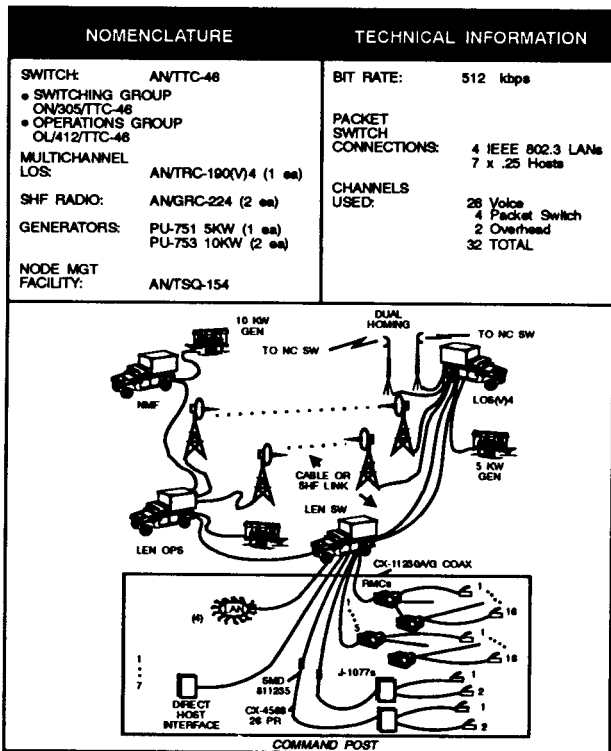

Figure 3-6. Typical LENO configuration.
**Function.** The LEN consists of two shelters, one for switching and one for operations, an LOS(V)4 multichannel terminal, and an NMF. The LEN provides ACUS access to large groups of users in areas where mobility and dispersion are not primary considerations. See Figure 3-6. The LEN usually deploys to support large CPs such as the corps support command (COSCOM) and the DISCOM.